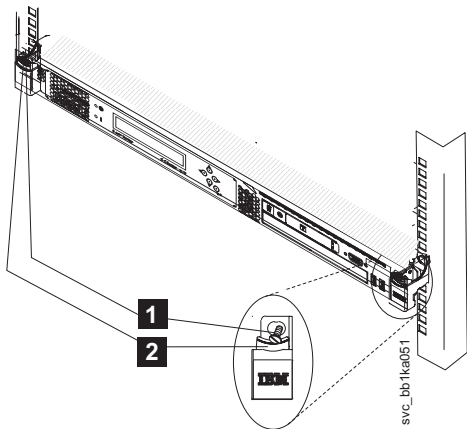

Figure 9. SAN Volume Controller 2145-CF8 release latches and mounting screws
- a. Remove any optional M6 screws, as shown by **1** in Figure 9 on page 22, from the front of the node.